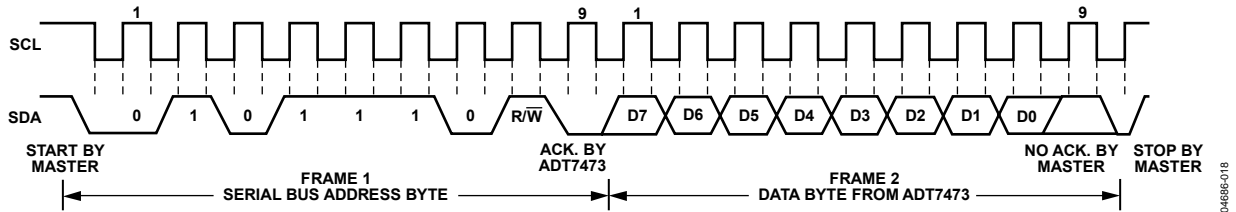

Figure 16. Reading Data from a Previously Selected Register
A read operation is then performed consisting of the serial bus address, R/W bit set to 1, followed by the data byte read from the data register. This is shown in Figure 16.
- If the address pointer register is known to be already at the desired address, data can be read from the corresponding data register without first writing to the address pointer register, as shown in Figure 16.